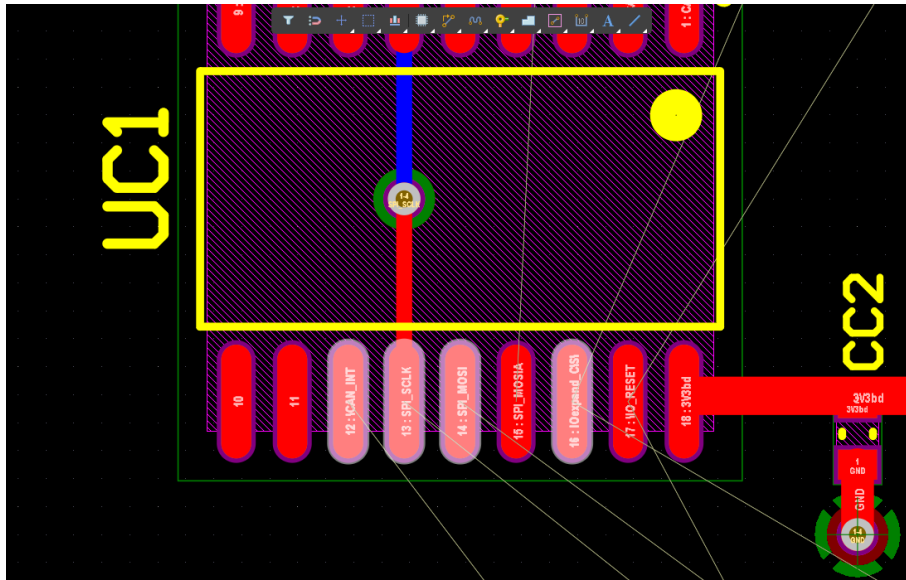

Figure 9. UC1 pads to be used for Multi-Trace routing
32. Hold **Shift** and click on Pads 12, 13, 14, 16 to select multiple pads as shown in Figure 9.